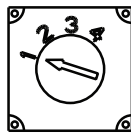

Figure 8: Regulator Voltage Selection Switch (Located on bottom of regulator)
1. Regulator has four selectable set points. Before installing regulator, verify appropriate switch setting (at bottom of regulator) for your application and change if necessary. See Figure 8 and Table 1 for fixed voltage set point options when used without battery sensor/harness. See Table 2 for battery chemistry-based charge profiles when used with compatible CEN battery sensor/harness. **Contact battery manufacturer or vehicle OEM for charging set point recommendations for your environment or application, if necessary.**